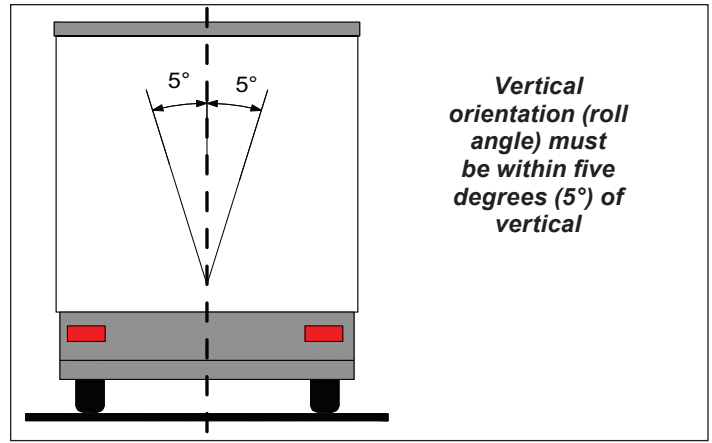

Figure 12 – Installation on Trailer (Vertical)
- The iTABS module must be installed with the following considerations (See Figures 12 through 14):